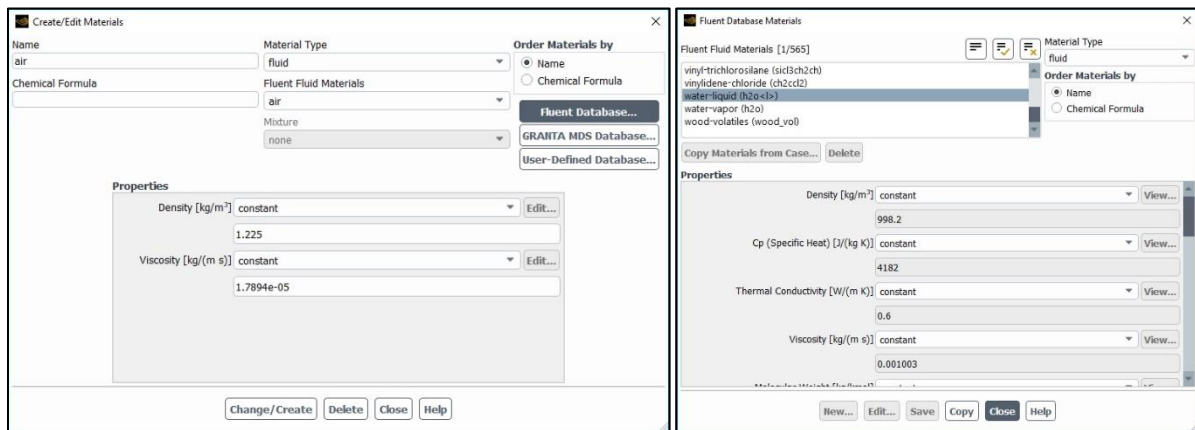

Figure E1-11. Adding a new material from the *Fluent Database*.
- for the *inlet* zone → the *velocity-inlet* boundary condition. We also need to enter the velocity of the fluid at the pipe entrance. In this purpose click *Edit...* and in the *Velocity Inlet* dialog box (Fig. E1-14) enter the *Velocity Magnitude [m/s]* as $w = 0.001005$ [m/s]. This value was calculated from the Reynolds number definition for the specified in the example values of the Reynolds number, pipe diameter and water properties (density and viscosity, Fig. E1-11).